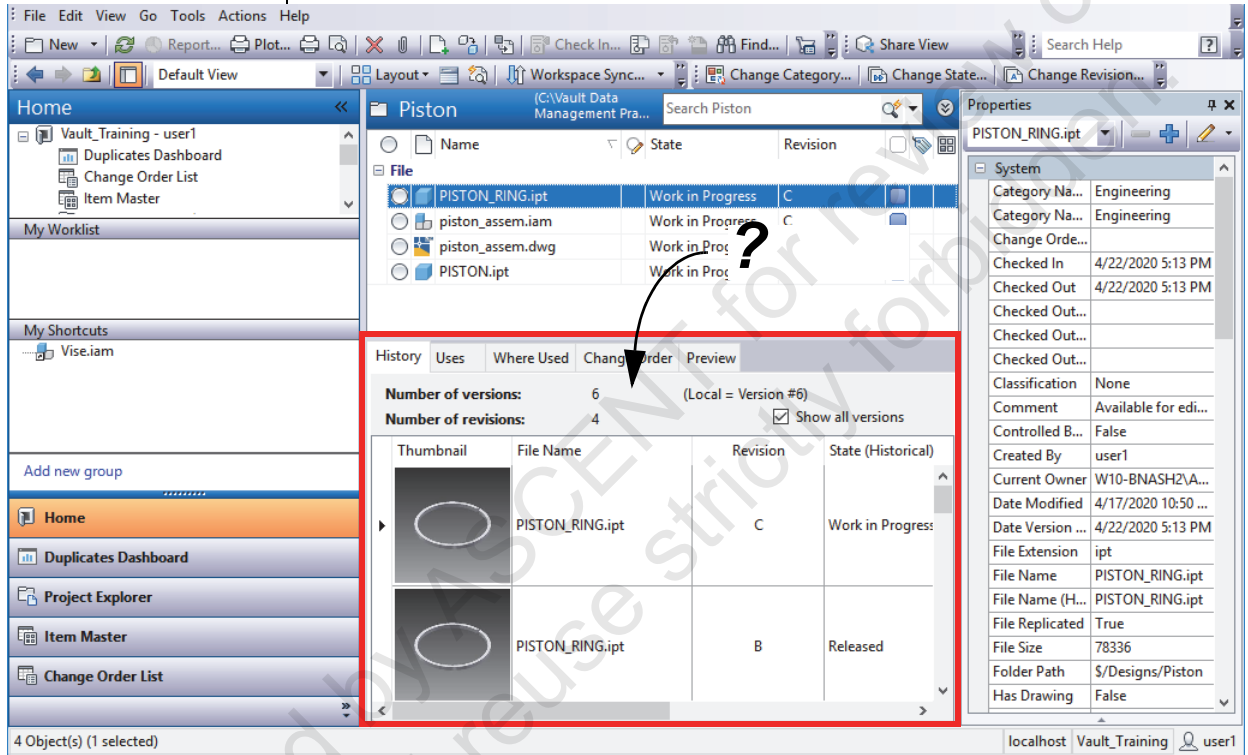

Figure 1–6
6. In Figure 1–6, what is the name of the highlighted area?